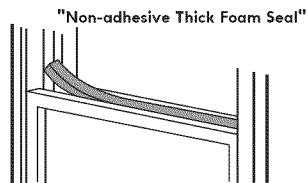

Fig.11
4. Cut the non-adhesive thick foam seal to window width and insert into the open gap between the inner window and outer window sash (see Fig. 11).